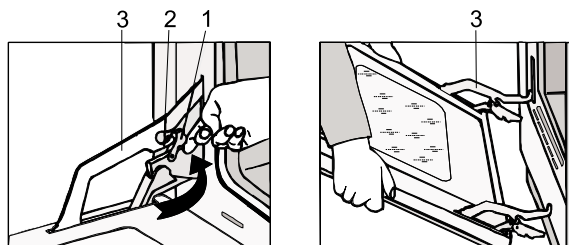

Fig. 21
- Lock hinges on both sides of the door by placing the clamping ring 1 on the catch 2 of the hinge bow 3 (fig. 21).